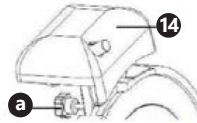

Fig. 3
- Loosen the fixing screw (a) of the sharpener (14) on the back side of the device. (fig. 3).
- Remove the sharpener from the device. (Fig. 3)